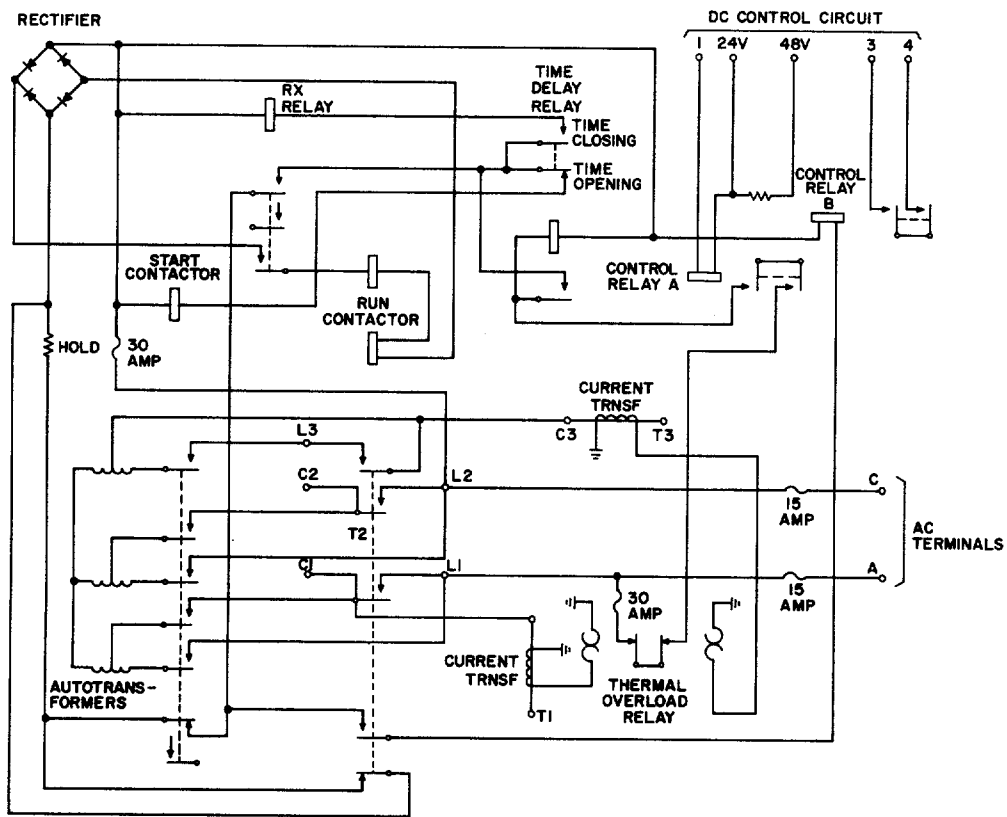

Fig. 32 — KS-15854 List 7 and 8 Starter Schematic
- KS-15854 Lists 7 and 8 (Fig. 32)